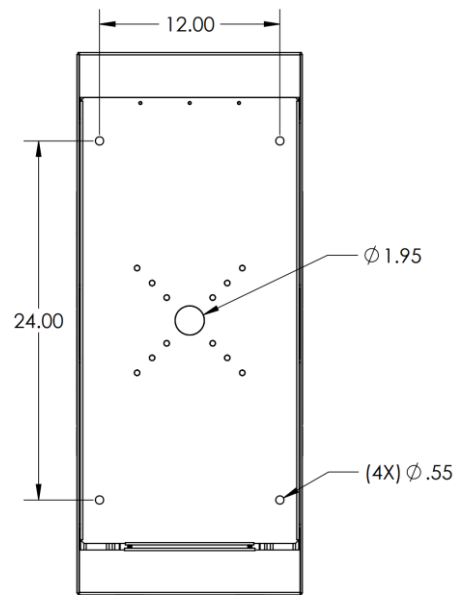

Figure 1 Rear side of a wall station BLH showing the conduit and mounting holes on the mounting panel.
The wall station BLH requires 120 VAC and consumes approximately 40.3 Watts before the addition of 3rd party devices (the unit can also be powered with POE if specified to Pedestal PRO prior to purchase). The conduit should emerge from the wall so it can pass through the central hole of the mounting panel (see Figure 1).
- Mark the mounting hole locations on the wall and set the mounting panel aside (see Figure 1).